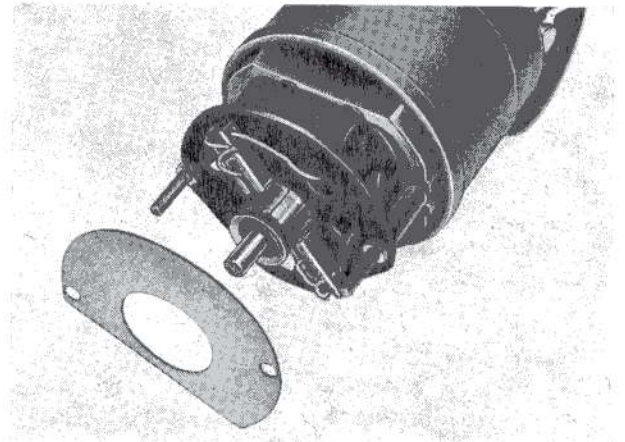

Fig. U.11. View showing arrangement of brush wires and position for flat side of end frame insulator
3. Position the end frame insulator as shown in Fig. U.11.